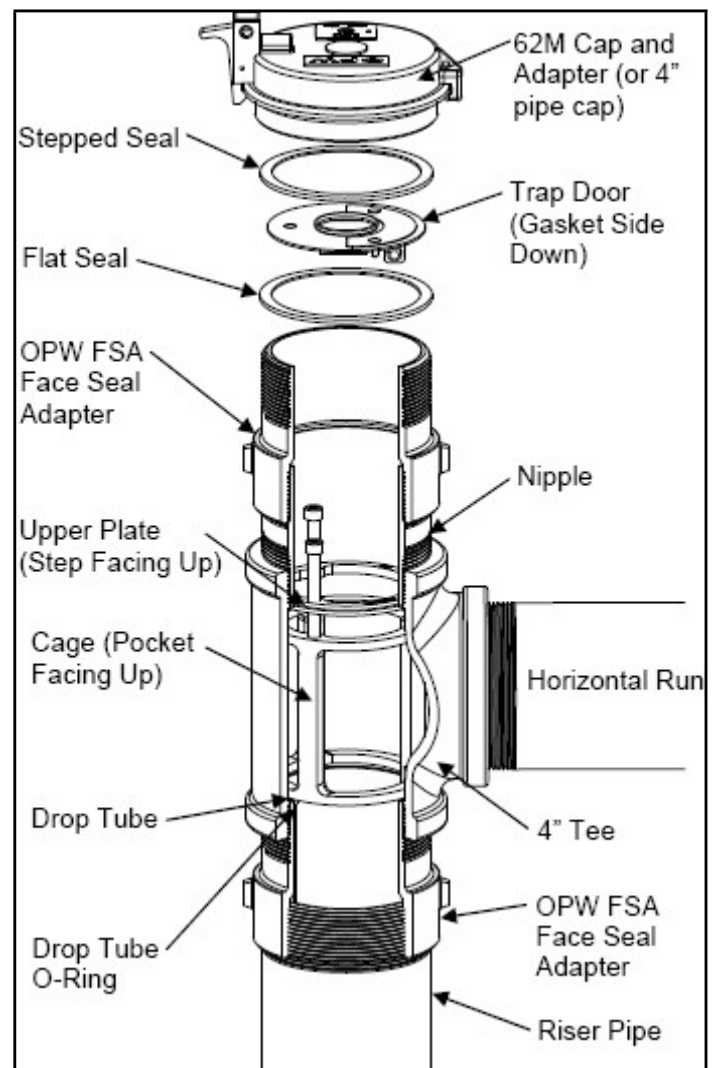

Figure 2
Step 3: (See Figure 2)
Step 4: (See Figure 2)
Step 5: (See Figure 2)
Step 6: (See Figure 2)
Step 7: (See Figure 2)
Step 8: (See Figures 2 and 3)
Step 9: (See Figures 2 and 3)